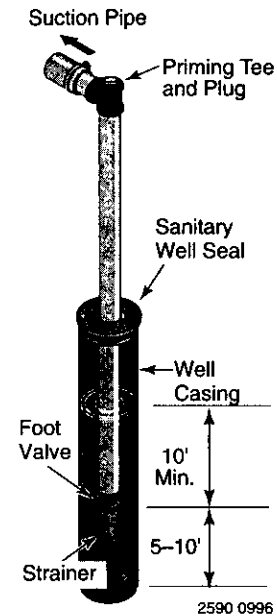

Figure 1 – Cased/Dug Well Installation
5. When using a foot valve, a priming tee and plug as shown in Figure 1 are recommended.